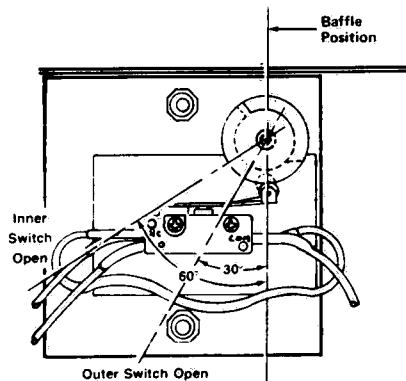

Figure 3-2. ICE FLAKER BAFFLE ASSEMBLY.
d. Check the storage bin ice level adjustment. The baffle assembly inner cam should be so positioned that its respective switch actuator is fully released when the baffle is rotated 30° (±2°) clockwise from its perpendicular (at-rest) position (Fig. 3-2). The outer cam should be so positioned that its switch actuator is released when the baffle is rotated 60° (±2°).
### Bin Cam (Figs. 3-2 and 3-4)